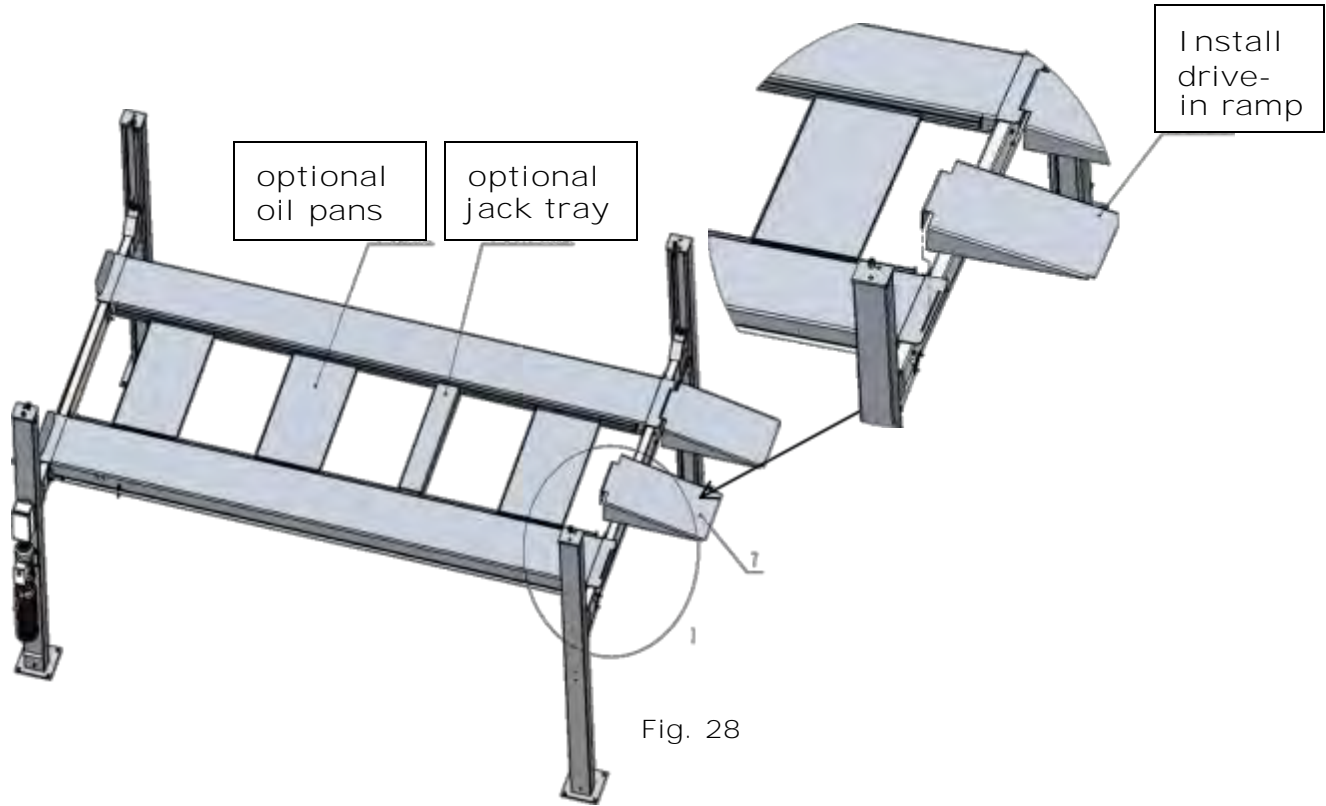

Fig. 28
N. Install drive-in ramp, optional jack tray and optional oil pans (See Fig.28). then attach the drive-in ramp.